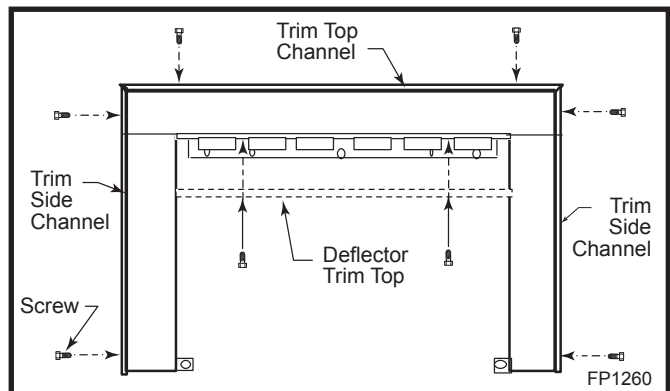

Fig. 39 Install trim channels and trim top deflector.
#### RHES, RHESL and RHESXL (Fig. 39)
3. Install the trim top deflector and use two (2) screws to fasten it. (Fig. 39 & 40)